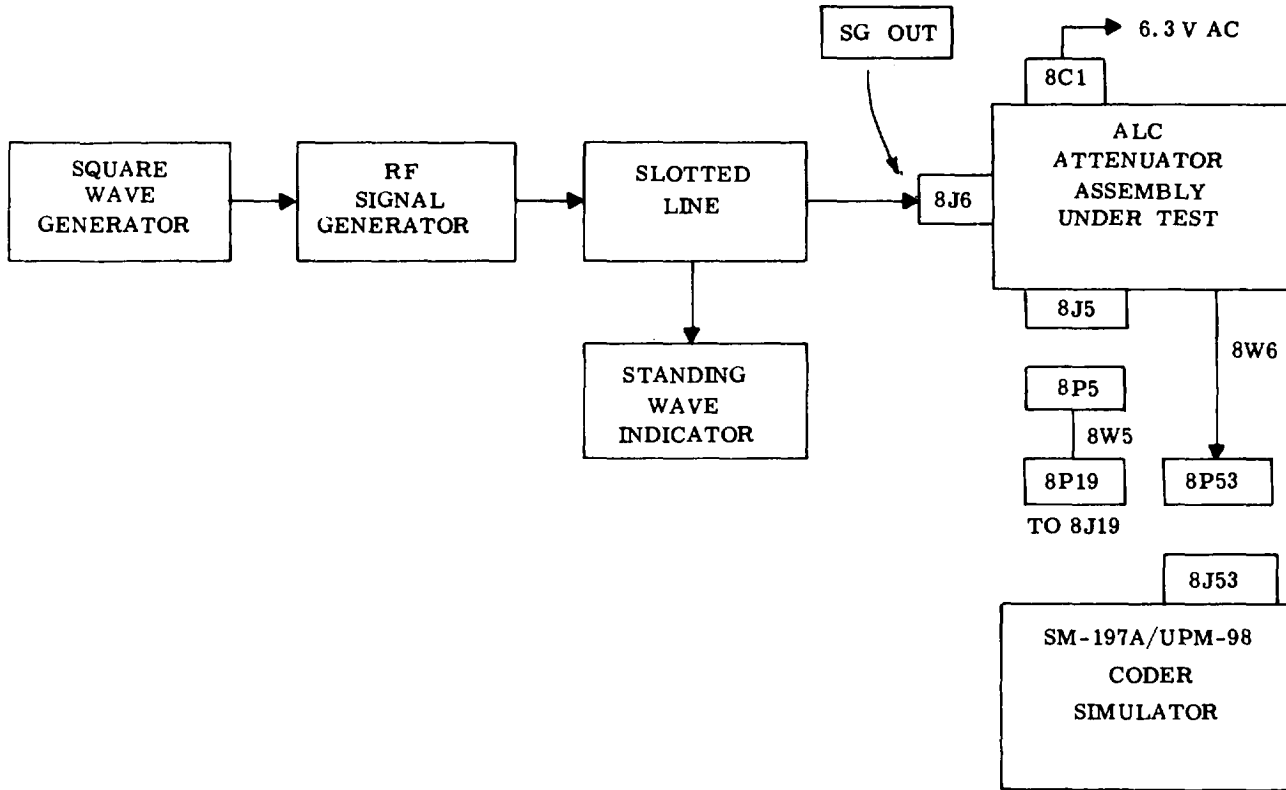

Figure 5-13. ALC/Attenuator Assembly 8A2, Test Setup
- Step 2. Check resistance between center pin of SG OUT connector (item 34) and ground. It should be 47 ohms \pm 5%.
- Step 3. Check resistance between center contact of capacitor 8C4 (item 21) and ground. Resistance should be infinite.
- Step 4. Check resistance between center contact of capacitor 8C4 (item 21) and center conductor of rf cable (item 10). Resistance should be 15 ohms \pm 5%.
- Step 5. Measure VSWR at SC OUT connector (item 34) by connecting ALC/Attenuator to test equipment as shown in figure 5-13. With attenuator plunger in center of its travel range, VSWR should be less than 1.18:1 (1.4 db) over a frequency range from 925 to 1225 mc.